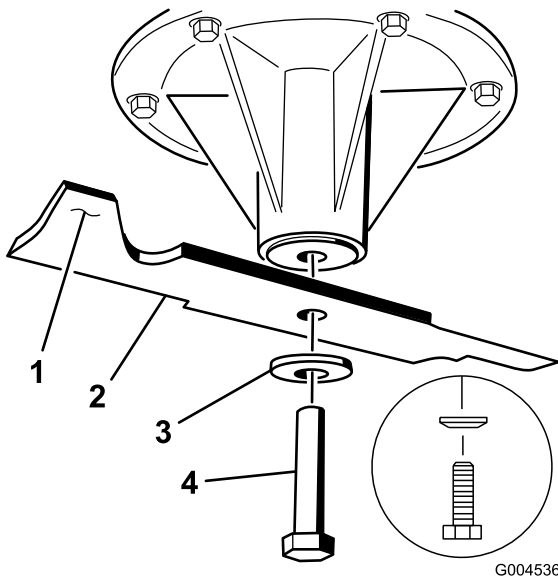
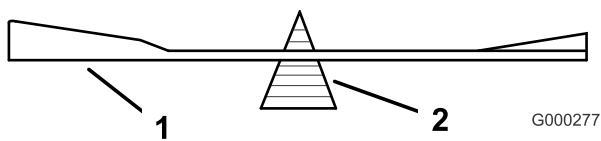

Figure 62
Figure 65
2. For 40 and 48 inch mower decks, remove the blade bolt, curved washer, and blade from the spindle shaft (Figure 62).
2. Check the balance of the blade by putting it on a blade balancer (Figure 65). If the blade stays in a horizontal position, the blade is balanced and can be used. If the blade is not balanced, file some metal off the end of the sail area only (Figure 62). Repeat this procedure until the blade is balanced.
1. Install the blade onto the spindle shaft (Figure 62).
Important: The sail part of the blade must be pointing upward, toward the inside of the mower to ensure proper cutting (Figure 62).
2. For 40 inch and 48 inch mower decks, install the blade, curved washer, and blade bolt (Figure 62).